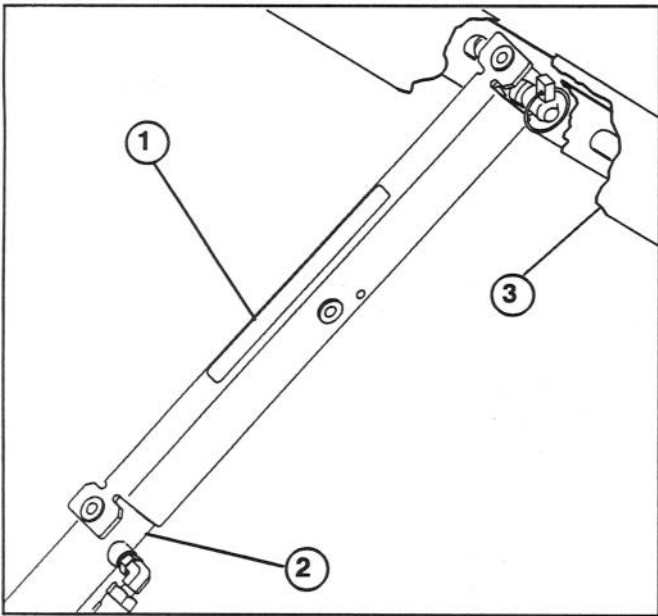

Figure 11
- C. Push bed support onto cylinder rod, making sure support end tabs rest on end of cylinder barrel and on cylinder rod end (Fig. 11).